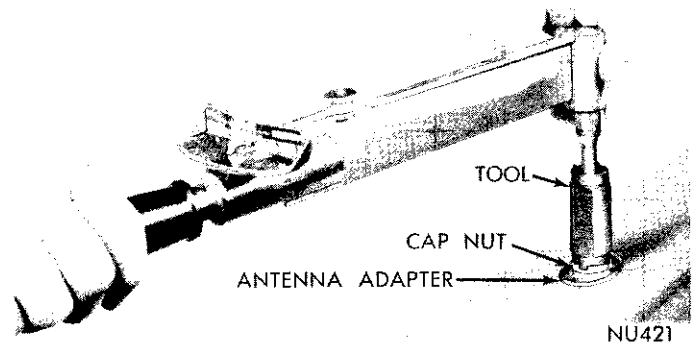
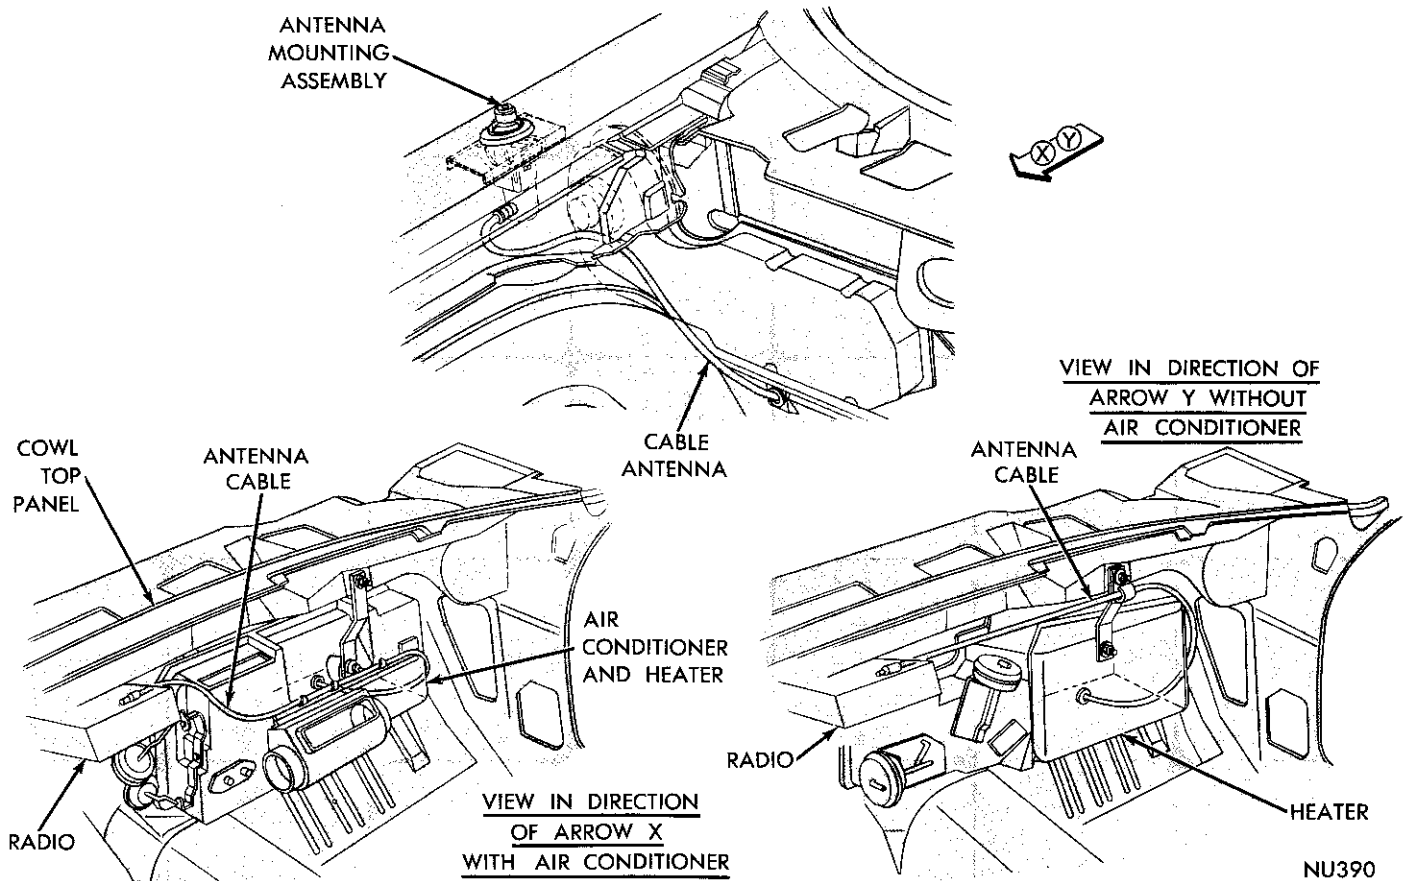

Fig. 14—Tightening Antenna Capnut
Fig. 15—Antenna Cable Routing—Manual
(3) Install gasket adapter and capnut. Tighten capnut to 155 inch pounds, plus or minus 25 inch pounds with Tool C-4085 (Fig. 14).
(4) Install antenna mast into antenna until sleeve bottoms on antenna body.
(5) Reroute antenna lead as shown in Figure 15.